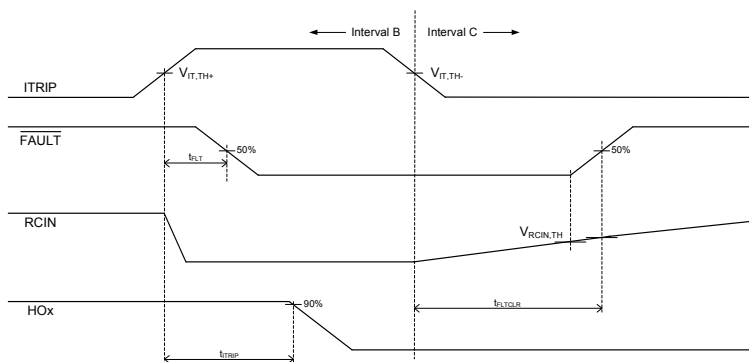

Figure 5: Detailed view of B & C intervals
During interval A of Figure 5, the HVIC has received the command to turn-on both the high- and low-side switches at the same time; as a result, the shoot-through protection of the HVIC has prevented this condition and both the high- and low-side output are held in the off state.
Interval B of Figures 5 and 6 shows that the signal on the ITRIP, GF, PCFtrip input pin has gone from a not active to an active state; as a result, all of the gate drive outputs have been disabled (i.e., see that HO_x has returned to the low state; LO_x is also held low), the voltage on the RCIN pin has been pulled to 0 V, and a fault is reported by the FAULT output transitioning to the low state. Once the ITRIP, GF, PCFtrip input has returned to the not active state, the output will remain disabled and the fault condition reported until the voltage on the RCIN pin charges up to $V_{RCIN,TH}$ (see interval C in Figure 6); the charging characteristics are dictated by the RC network attached to the RCIN pin.
During intervals D and E of Figure 5, we can see that the enable (EN) pin has been pulled low (as is the case when the driver IC has received a command from the control IC to shutdown); this results in the outputs (HO_x and LO_x) being held in the low state until the enable pin is pulled high.